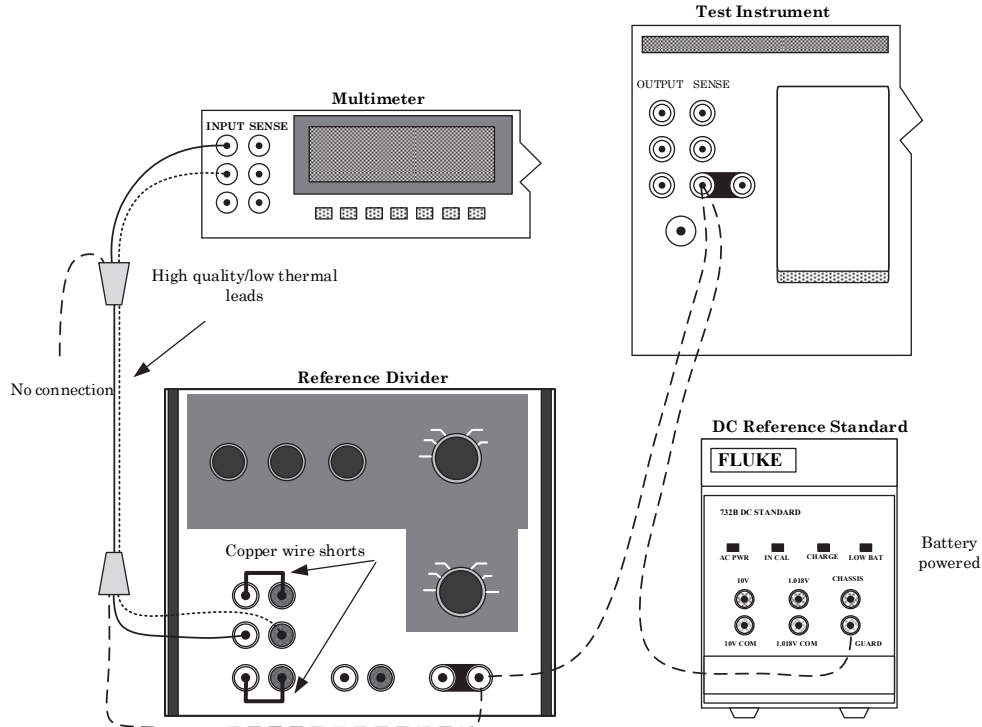

Figure 5. DCV System Zero Connection.
- (9) Repeat technique of (6) through (8) for remaining rows in table 3.
- (10) Press TI **RESET** and disconnect equipment set up.
- (11) Record the test report value of DC reference standard as V_{ref} for use in table 4.
- (12) Ensure that the reference divider has been self-calibrated (appendix A).
- (13) Connect equipment as shown in figure 5.